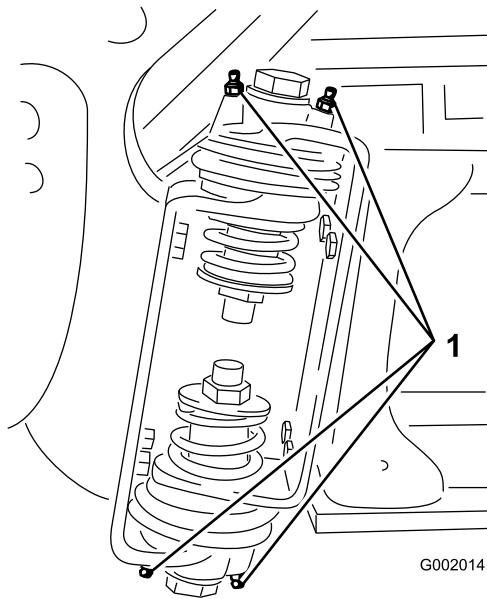

Figure 62
2. Pump grease into the bearing or bushing at each fitting (Figure 62).